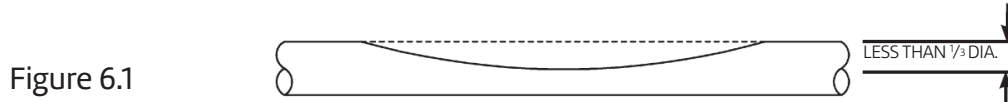

Figure 6.1
- No repairs or replacement of the tubing is necessary if the tubing is only slightly dented by crushing as indicated in Figure 6.1.